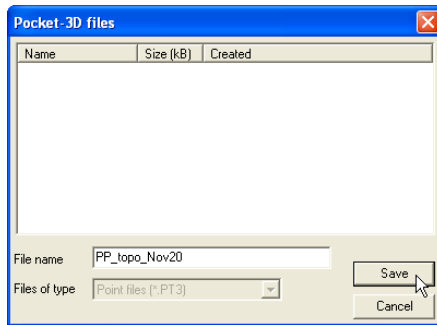

Figure 3-20. Save File to Pocket-3D Controller
3. On the ***Pocket-3D files*** dialog box, do one of the following and click **Save** (Figure 3-20 on page 3-18):